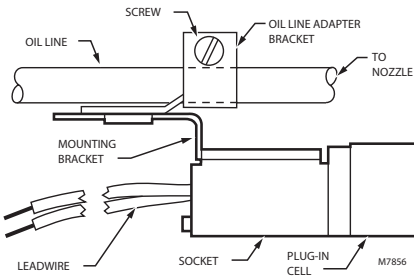

Fig. 5. Use oil line adapter bracket to mount C554A on oil line.
7. Mount the oil line adapter bracket on the oil line using the screw and nut provided (Fig. 5).